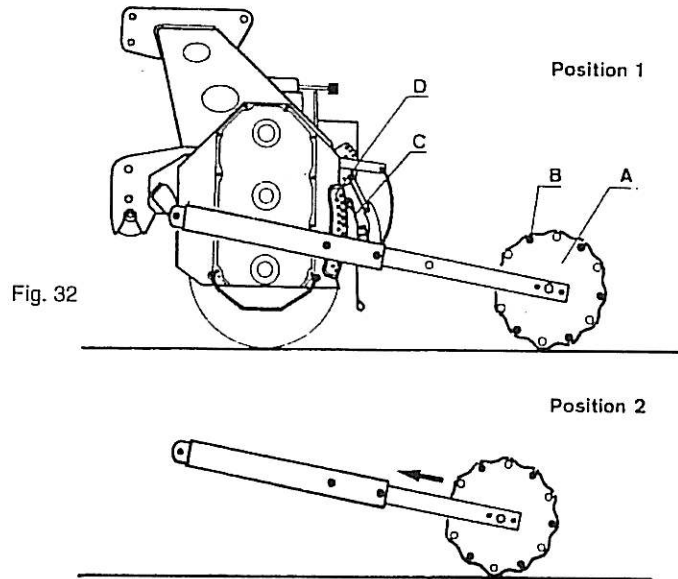

Fig. 32
See Fig. 32. Crumple roller with two positions (I) and (II).